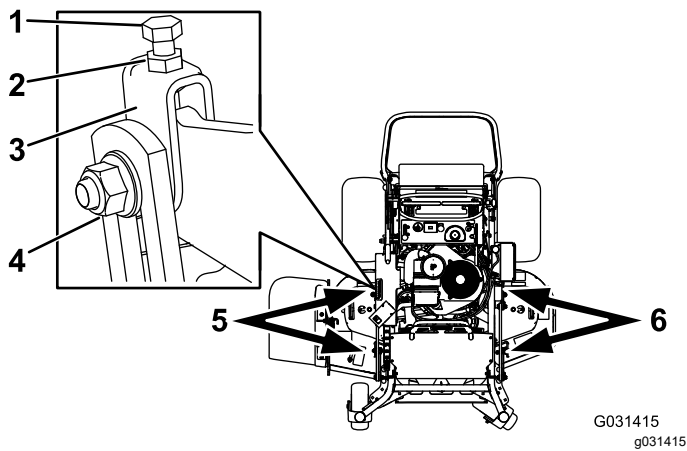

Figure 82
1. Loosen the side nut and jam nut in the yokes you want to adjust (Figure 82).
2. Rotate the top bolt of the yokes to adjust the height of the mower deck (Figure 82).